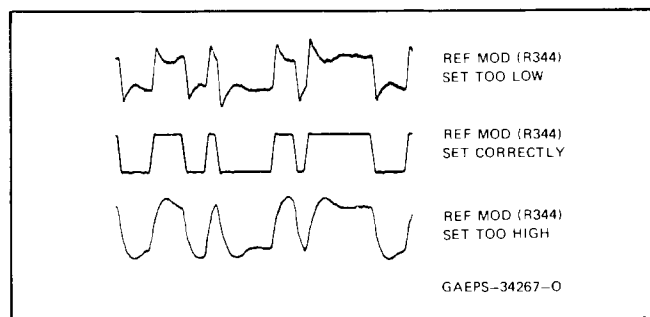

Figure 6. Examples of "Eye Pattern" Symmetry
Step 11. (DPL models only) Connect a direct-coupled input lead of an oscilloscope to the digital output of a standard test receiver. Adjust the REF MOD potentiometer (R344) until the best eye pattern symmetry is obtained. Refer to Figure 6. Check all other channels equipped with DPL and verify that all the eye patterns are similar.